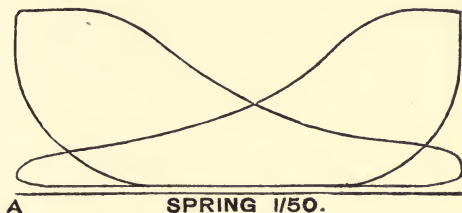

Fig. 5.
8. Fig. 5 is an indicator diagram for a double acting steam engine whose stroke is 2 feet and length of connecting rod 4 feet. The area of the piston is 250 square inches. The guide-bars are supported at their extremities, the distance between the supports being 3 feet. Draw the maximum bending moment diagram for the guide-bars for a forward stroke.